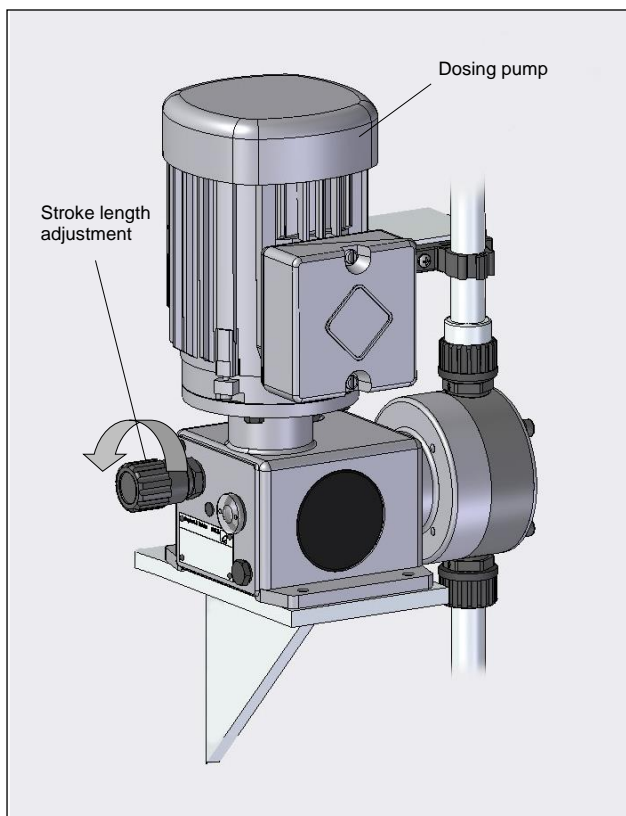

Fig. 08
- Slowly increase the delivery rate via the stroke frequency or stroke length adjustment to the maximum setting (see Fig. 08).